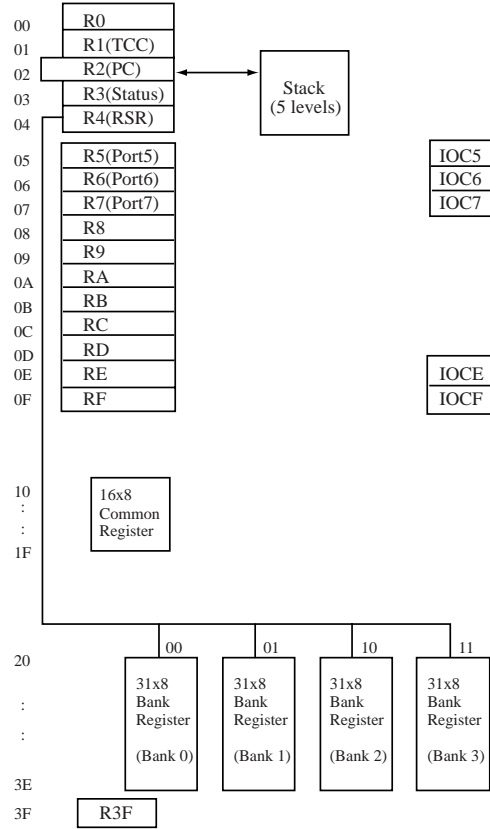

Fig. 4 Data memory configuration
- Bit 7(GP) General read/write bit.
- See the configuration of the data memory in Fig. 4.